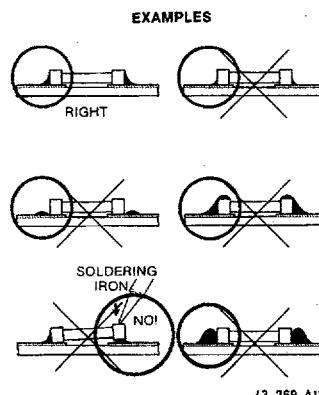

Fig. 4
- g. The quantity of solder must be proportional with the size of the solder land. If the quantity is too great, the SMD might crack or the solder lands might be torn loose from the printed board (see Fig. 4).